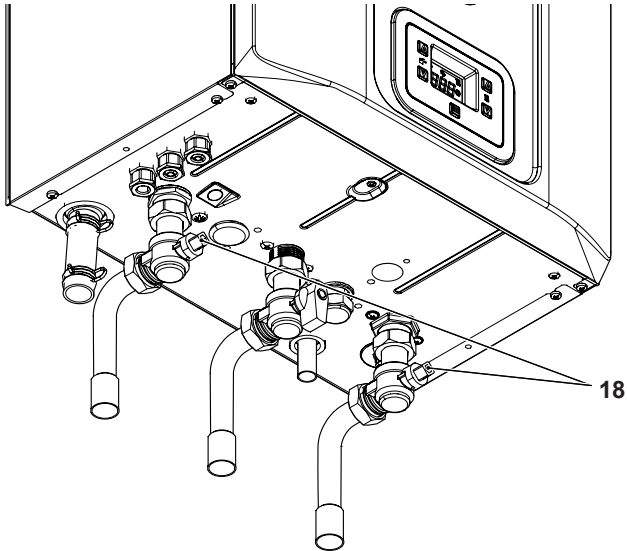

Figure 2.10
- 1 Close the C.H. circuit flow and return cocks "18" (Figure 2.10).